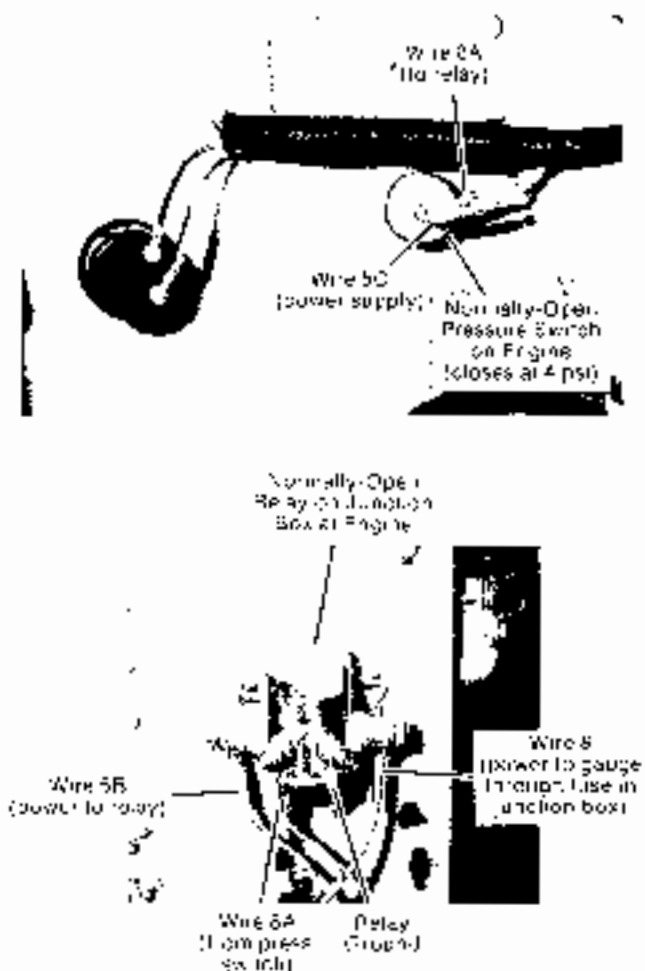

Figure 2 Power supply Wiring for Gauges
All gauges except the ammeter receive power through a normally-open pressure switch on the engine and a normally-open relay on the junction box at the engine (see Figure 2).
2. Connect a jumper wire (No. 14 AWG) between the two terminals on the engine oil pressure switch (see Figure 2). Start the engine. If the gauges now operate, replace the pressure switch with a new one. If the gauges still do not operate, remove the jumper wire and perform step 3.
3. Connect a jumper wire between terminals 5B and 8 at the relay on the junction box (see Figure 2). Start the engine. If the gauges now operate, replace the relay with a new one.